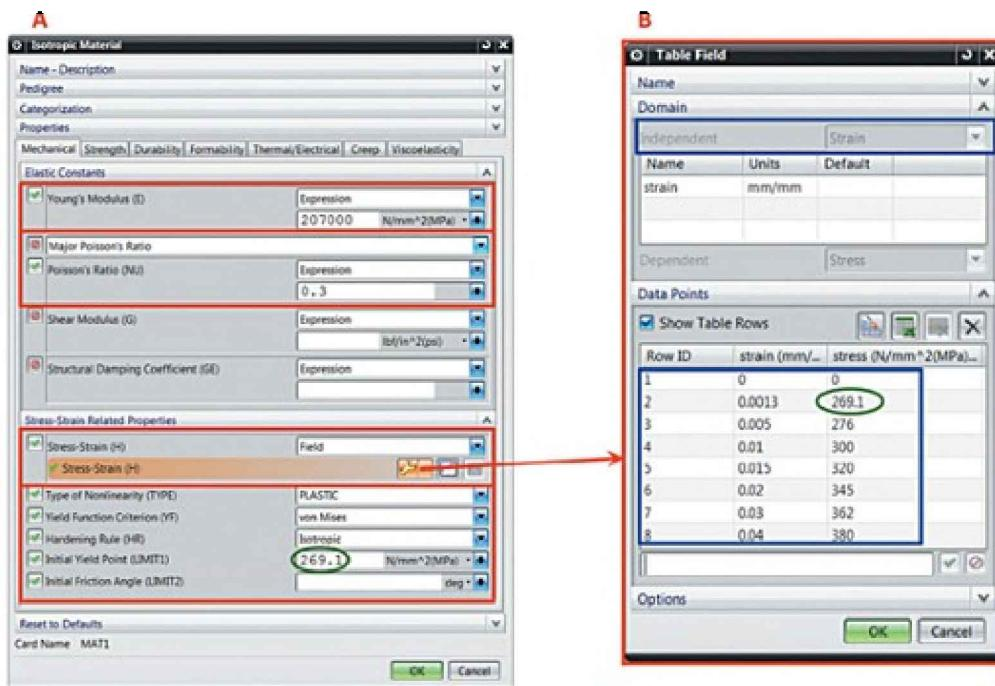

Figure 4.7. Specifying the stress-strain curve in tabular form
To specify elastoplastic material properties in NX Advanced Simulation, do the following (Figure 4.7):
4. In the *Stress-Strain Related Properties*, specify the following parameters (Figure 4.7, A):
5b. If piecewise linear method is used, in the Stress-Strain list, select (Figure 4.7, B):